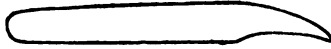
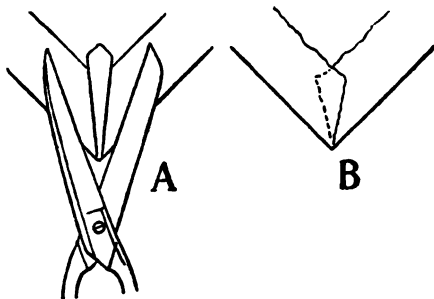

FIG. 64
FIG. 65
on the two boards in the same way as described for the fore-edge, and the edge rubbed square with a folder. At fig. 64 is shown a convenient form of folder for covering. At the corners the leather must be pulled over as far as possible with two folders meeting at the extreme point, the object being to avoid a cut in the leather at the corner of the board. The folds so formed must be cut off with the scissors (see fig. 65, A), then one edge tucked neatly under the other (B). Care must be taken throughout not to soil the edges of the leaves.